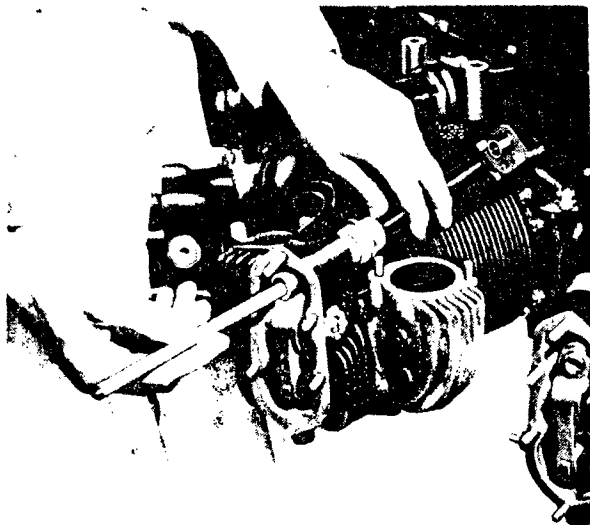

Figure 85 — Installing Push Rod and Push Rod Housing
1. PUSH ROD HOUSINGS (See Figure 85)